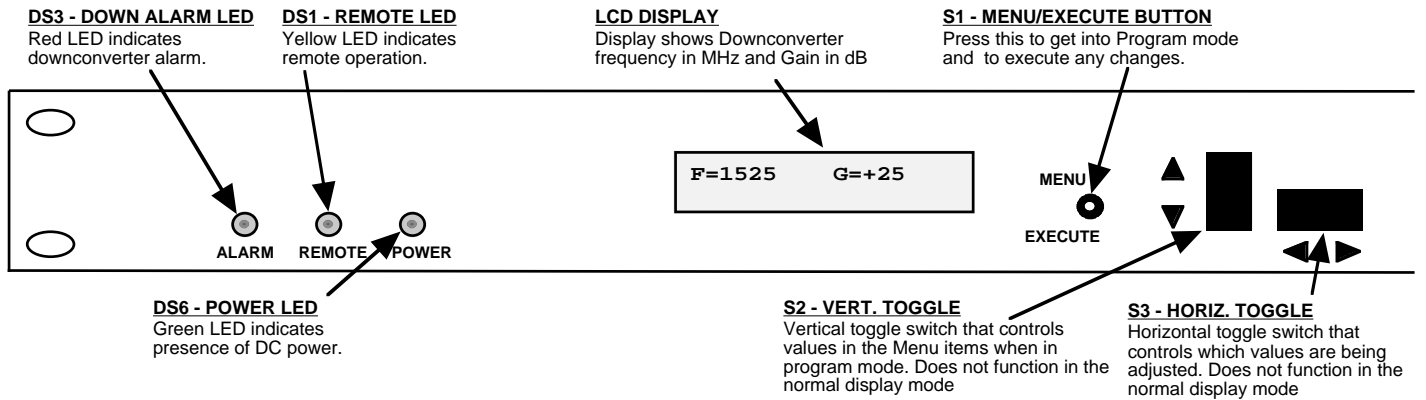

FIGURE 2.3 2016-02 (CE) Front Panel Controls and Indicators
6. Be sure DS6 (green, DC Power) is on and DS3 (red, Alarm) is off (Figure 2.3).
Alarm indications appear on the LEDs (see figure 2.3).